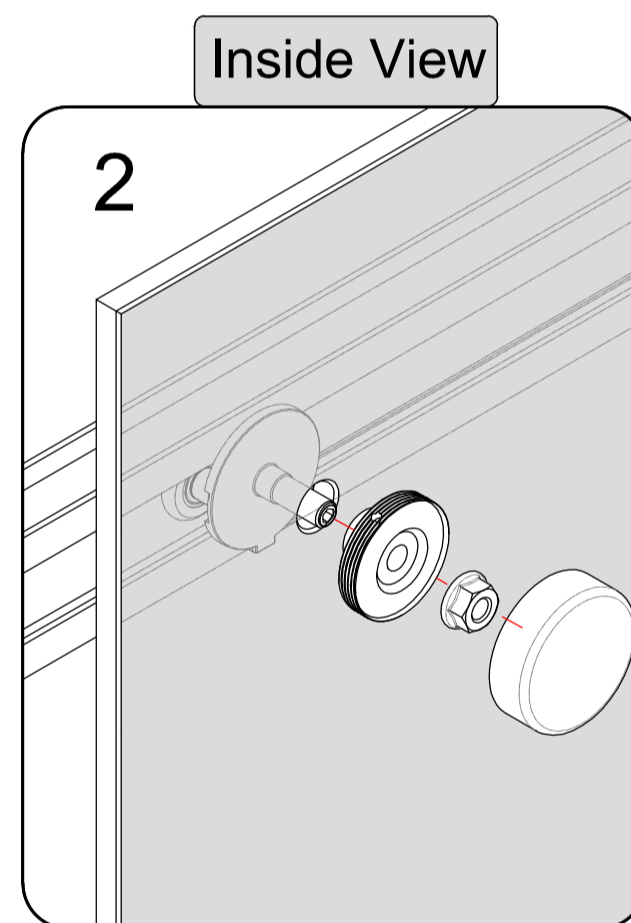

Fig.2
2. Remove the cap and screw from the **Rollers (K)** and attach the **Rollers (K)** to the **Inside Door Panel(L)** Fig.2
If you notice there is no buffering effect after everything is installed, it is mainly caused by the rebound of the buffer sliding hook in the upper guide rail. A finger to push the buffer sliding hook to the designated position, so that the end of the shank can slide into the buffer and slide together. as Pag.9 of Fig.2